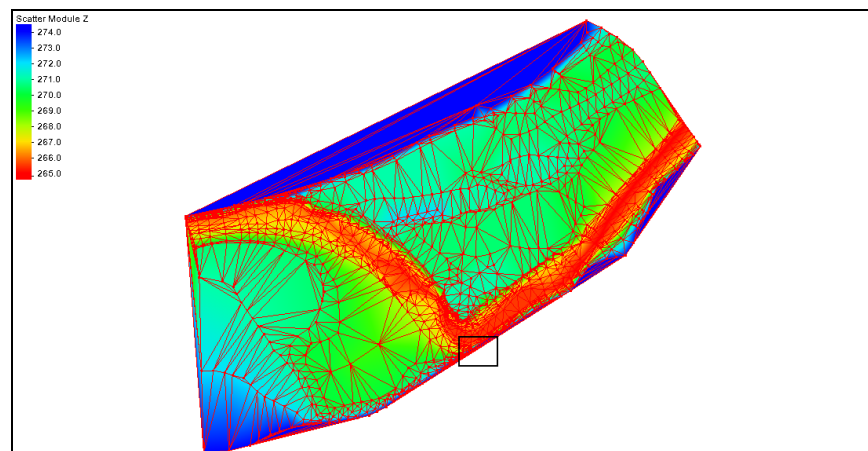

Figure 3 Zoom in to this area
5. **Zoom**  in to the area indicated at the bottom of the dataset (Figure 3).